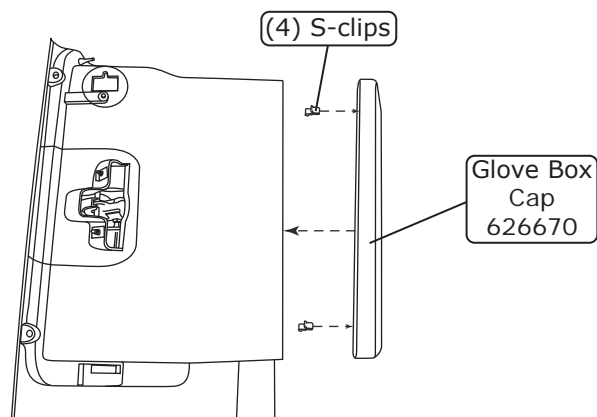

Figure 2
4. Install (4) S-clips onto the glove box cap, and install it onto the glove box as shown in Figure 2, below.